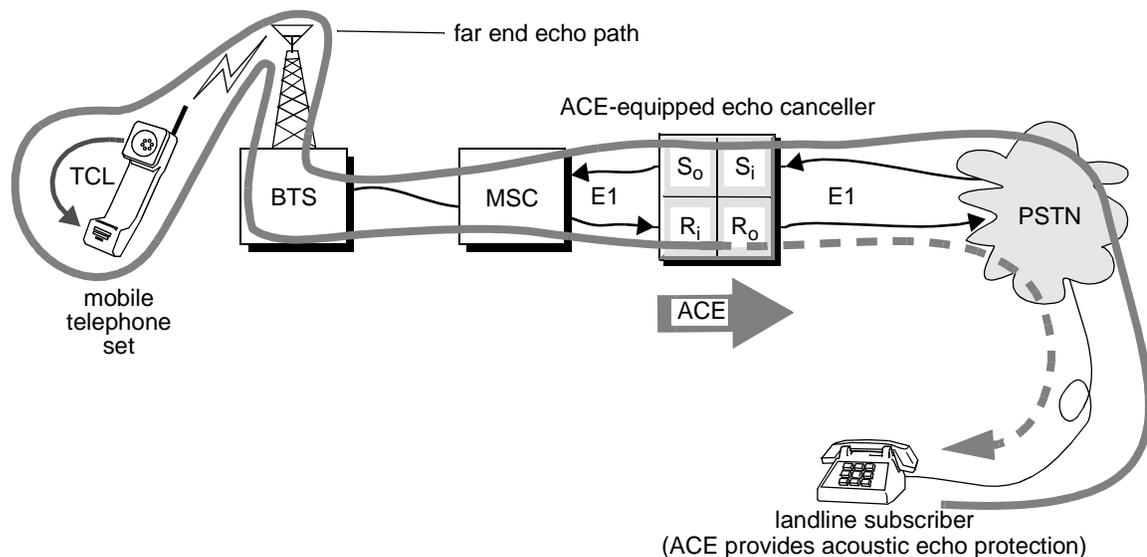

Figure 2-3 ACE eliminating echo in echo canceller's receive path
- 2.6 ACE operates in a digital or analog cellular network. Figure 2-3 illustrates ACE operating with a typical cellular telephone network and the public switched telephone network. Echo control occurs in the receive leg of the echo canceller. In the figure, the landline's echo path is shown as a dashed arrow past the receive out port to indicate echo control.